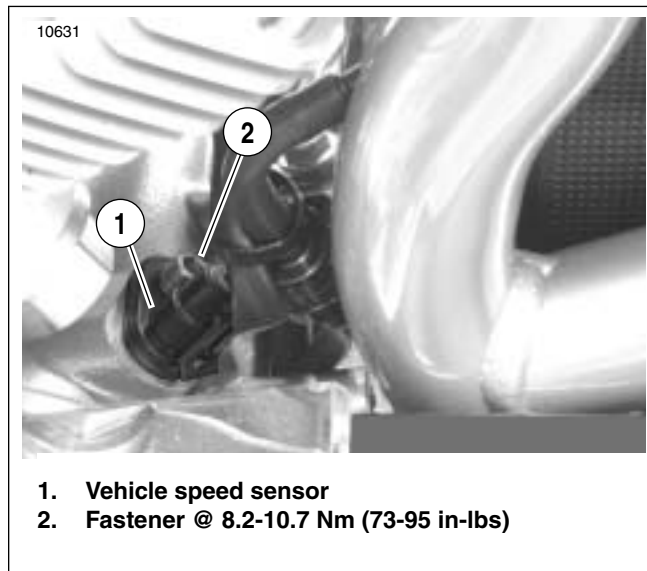

Figure 8-62. Vehicle Speed Sensor (typical)
2. See Figure 8-62. Disconnect VSS wiring harness cable connector [65B] from the VSS.
1. See Figure 8-62. Install **new** VSS with O-ring, and fastener (2). Tighten to 8.2-10.7 Nm (73-95 in-lbs).